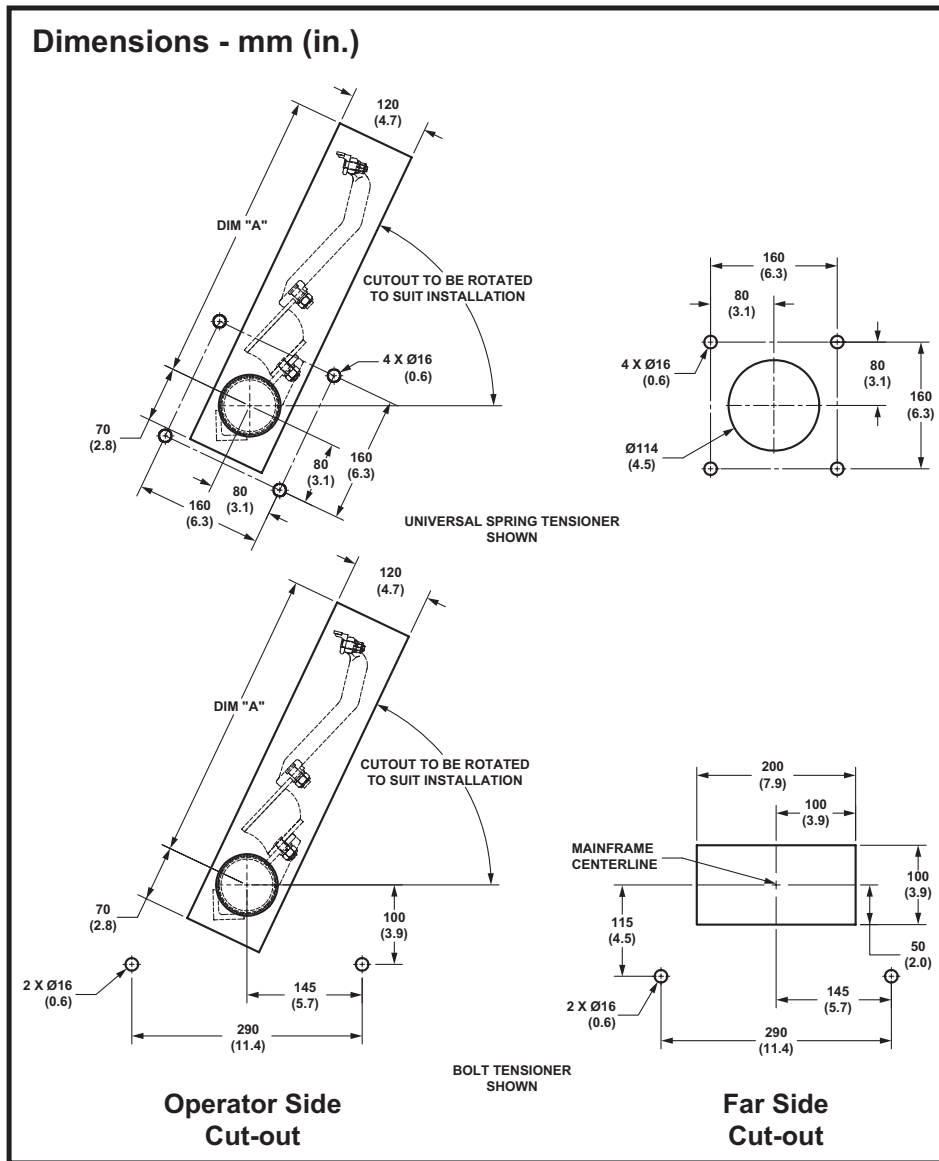

Figure 5. Martin® H1 Primary Belt Cleaner HD Chute Cutout Details
10. If installing into a chute, access and maintenance cut-outs will be required. (Refer to Figure 5 & Table III.)